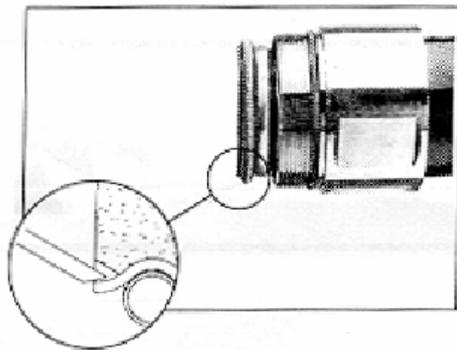

Figure C-16 Pressing foam plastic tightly
- 10) Press the foam plastic tightly, as shown in Figure C-16.